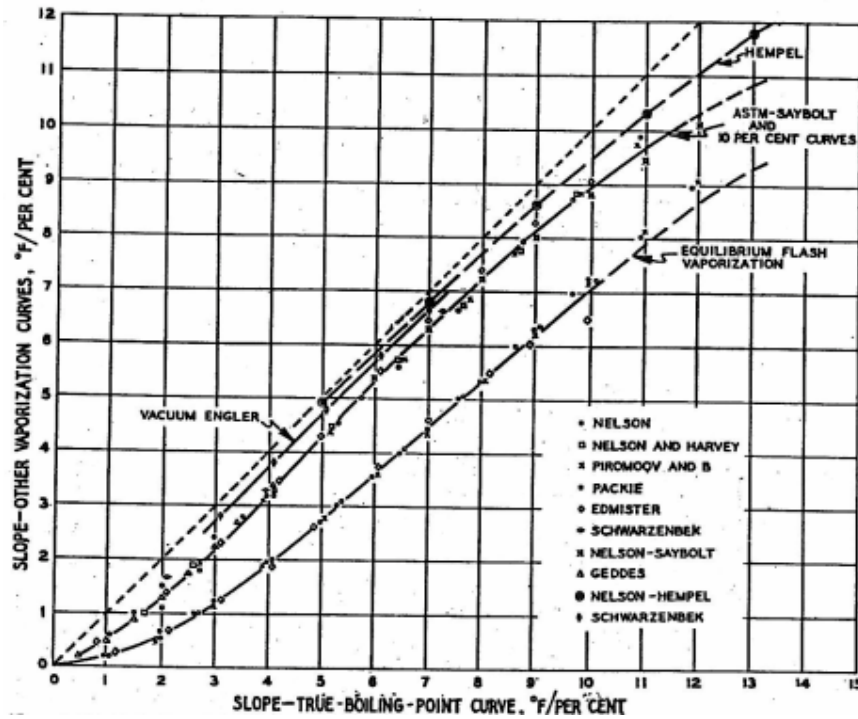

Fig. 10. Relationships between the slopes of various distillation curves
Fig. 10 is used to convert Distillation Curve from any type to any type.
**Sol.:** From Fig.10, the slope of EFV curve = 6.6 (at 9.4 TBP)